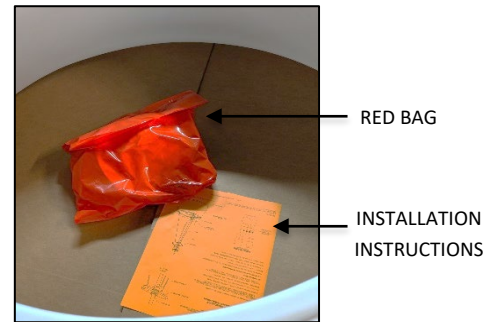

FIG. 3 RED BAG AND INSTALLATION INSTRUCTIONS
2. INSTALLATION INSTRUCTIONS (shown in FIG. 3) - Please completely read the install instructions before starting installation.
3. RED BAG (shown in FIG. 3) contains below following items